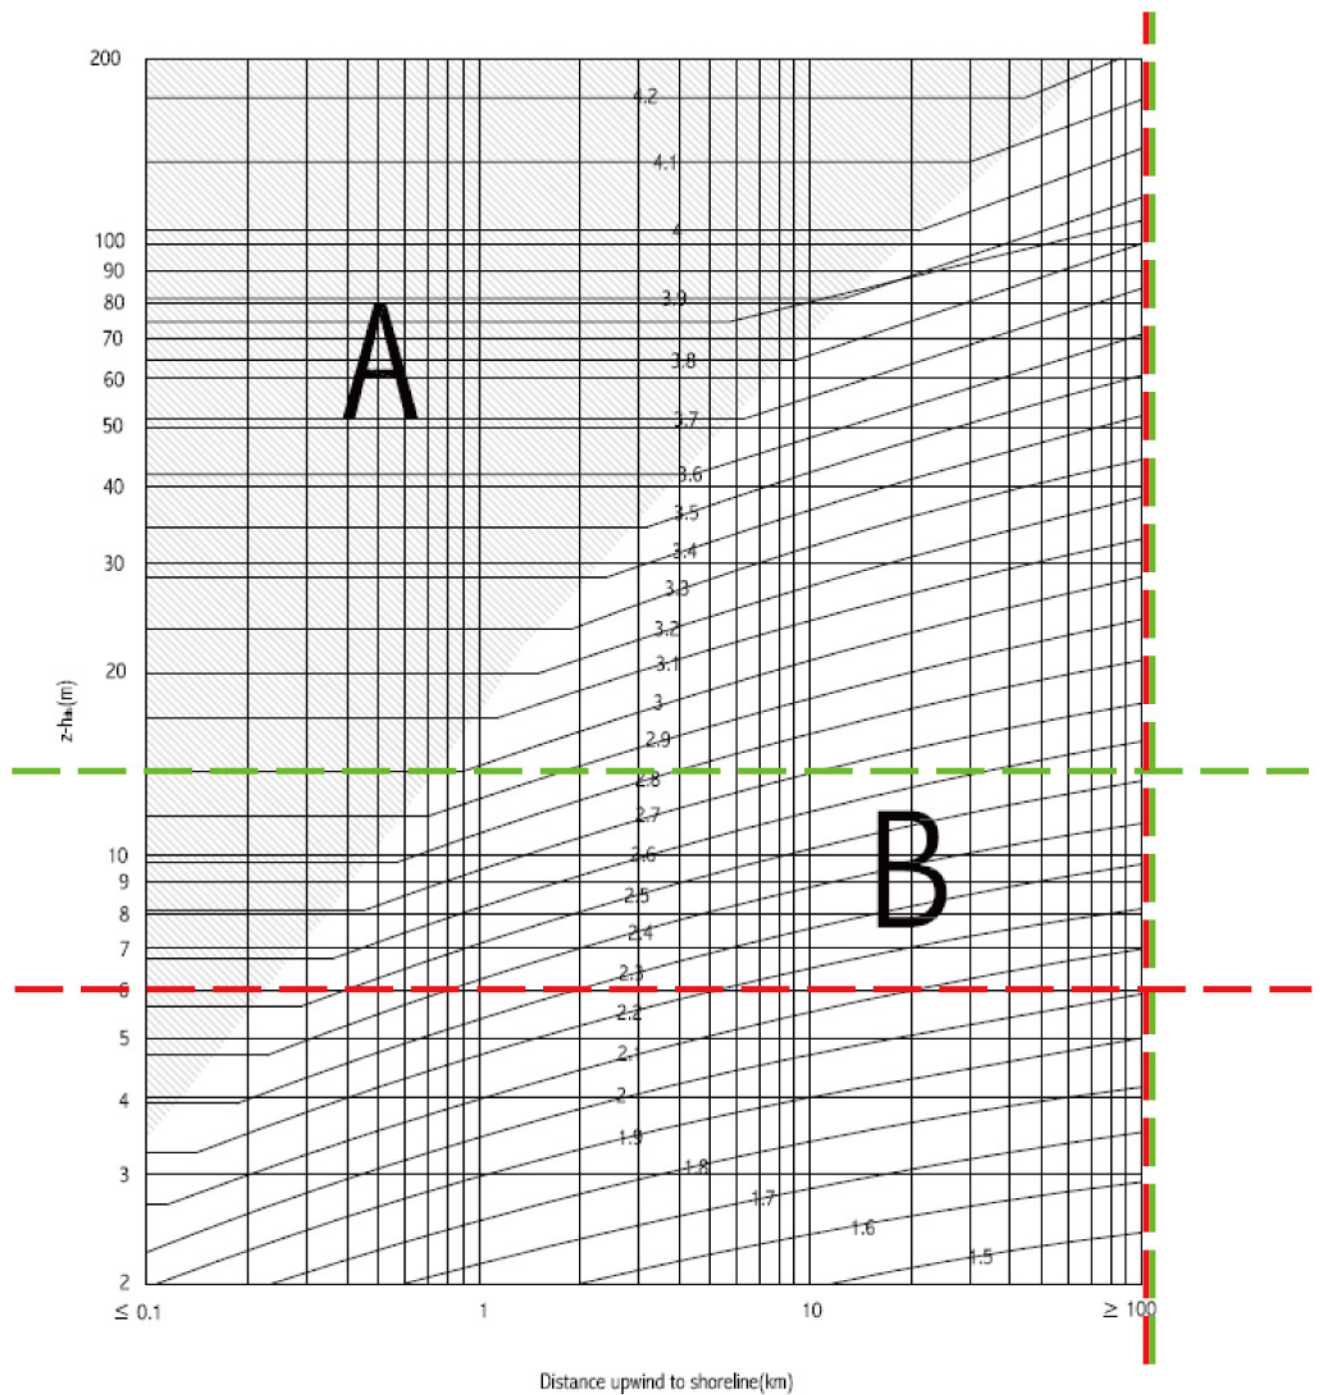
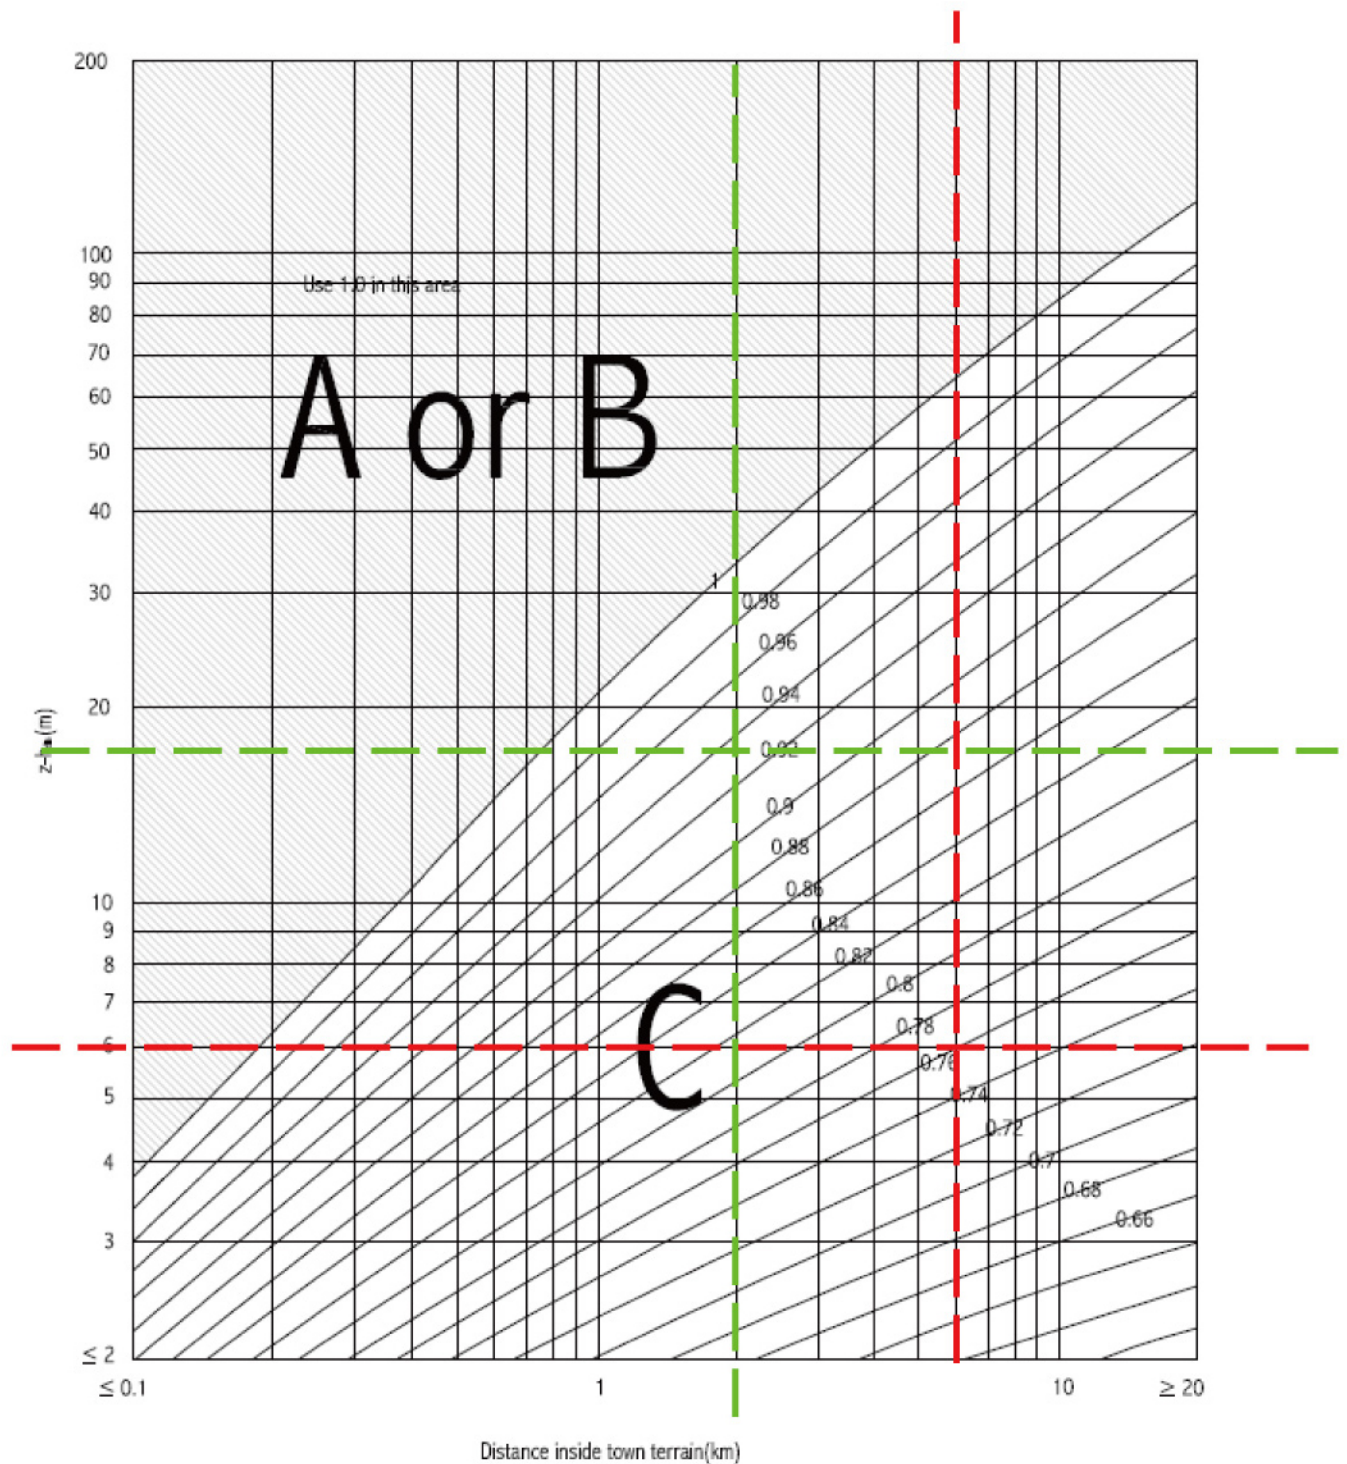

Fig 2. Chart for values of exposure correction factor, $C_e(z)$.
Fig 3. Chart for values of exposure correction factor, $C_{e,T}$
- Exposure correction factor $C_e(z)$, (see Fig 2)
- Exposure correction factor $C_{e,T}$, (see Fig 3)
3.7.4 The following charts (Fig 2. and Fig 3.) should be used to determine the values of exposure correction factors by striking a line across from the relative building height and up from the relative distances to the sea and town.